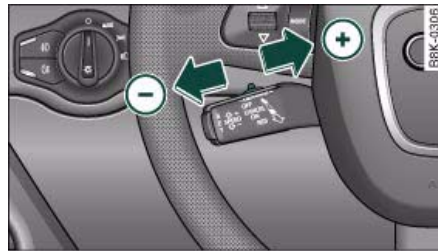

Fig. 142 Control lever for: Setting the distance
- Briefly press the sliding switch ⇒ fig. 142 **once** towards ⊕ or ⊖. The display in the instrument cluster will briefly show the current distance setting.